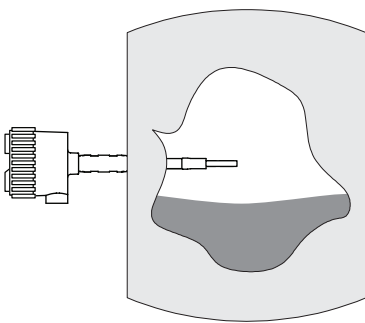

Figure 4-1
1. Be sure the material level is well below the sensing element. *See Figure 4-1.*